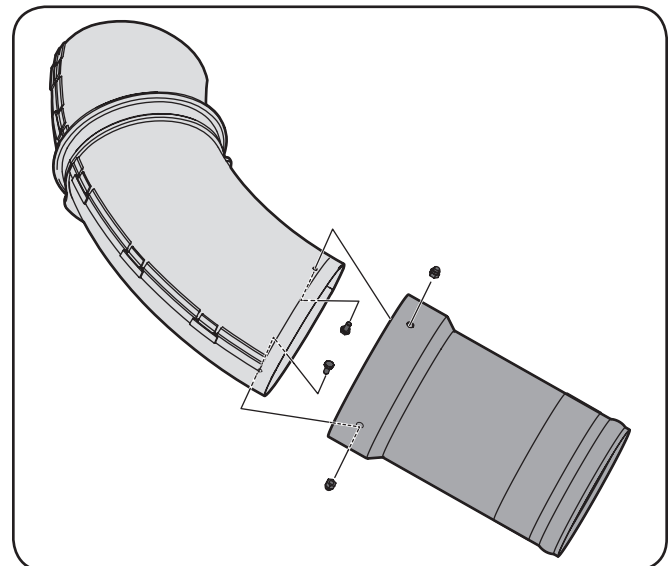

Figure 5-16
4. Install the upper chute tube into the wide end of the extension tube and secure the tubes together using two (710-3013) hex screws and 712-0442 cap lock nuts, included in hardware pack 689-00342. See Figure 5-16.